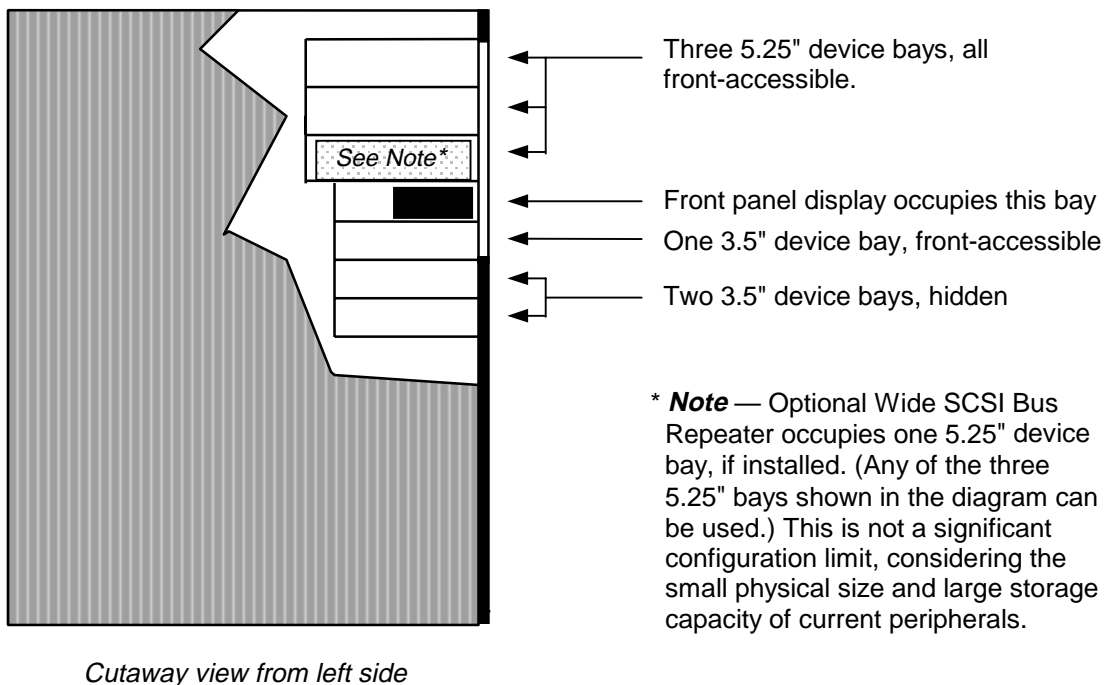

Figure 2. Eagle 450 Chassis: Peripheral Mounting Bays
- **Peripheral mounting**—The chassis accommodates up to six peripheral devices. Figure 2 shows details.